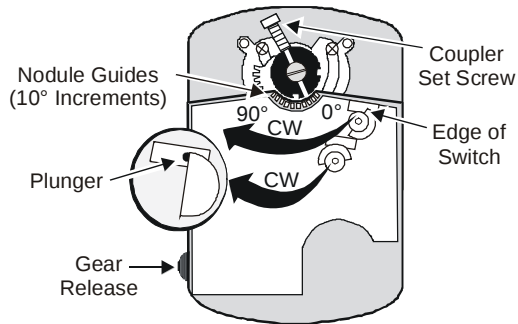

Figure 6: Switch Angle Settings
To change the angle of Switch S1 to 20°, refer to Figure 6 and proceed as follows:
2. Rotate Switch S1 CW, and align the edge of the switch with the plunger until the plunger rises. (See Figure 6.)
2. Rotate Switch S2 CW, and align the edge of the switch with the plunger until the plunger rises. (See Figure 6.)